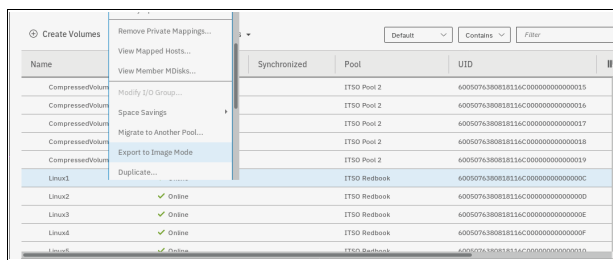

Figure 8-43 Exporting a volume to an image mode
1. Select the volume that you want. From the Actions menu, choose **Export to Image Mode**, as shown in Figure 8-43.